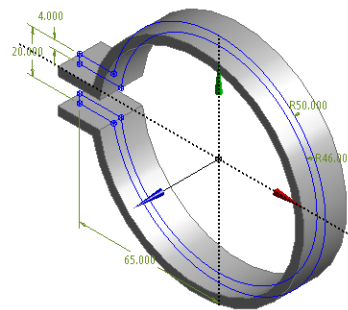

Figure 3-101 The base feature
4. Choose the **Generate** tool from the **DesignModeler** toolbar; the base feature is created with the specified settings, refer to Figure 3-101.